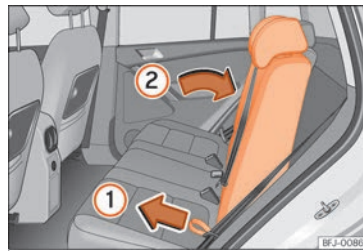

Fig. 141 Rear seat backrest adjustment.
- Press the right or left backrest of the seat with one hand and, at the same time, pull from the corresponding cord with the other » **Fig. 141** ①.
- Move the backrest with your hand to the desired position; there will be some resistance ②.